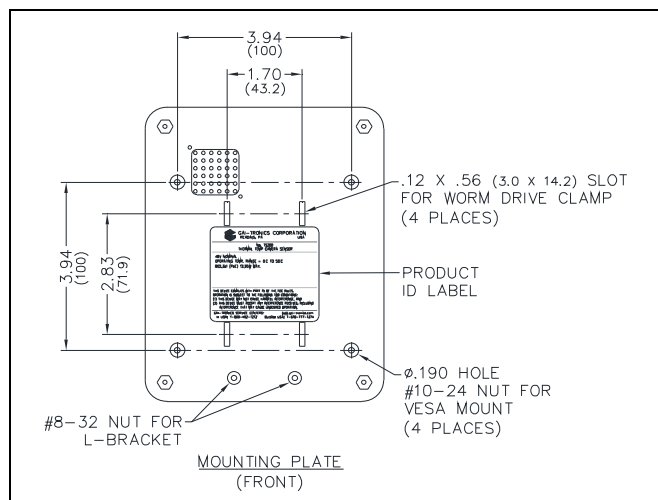
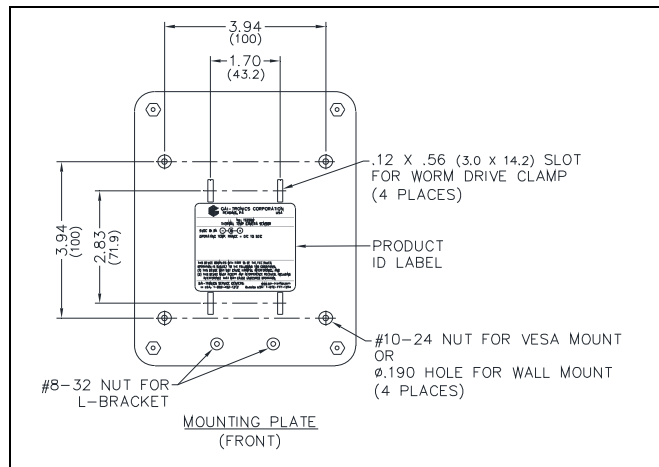

Figure 6. Mounting Plate Detail (Model TS200)
Figure 7. Mounting Plate Detail (Model TS200W)
1. Secure the mounting plate (TS200: see Figure 6, TS200W: see Figure 7) to a flat surface using (customer supplied) hardware.
1. Secure the TS200 (see Figure 6) or TS200W (see Figure 7) mounting plate, to a pole using (customer supplied) worm-drive clamps
Attach a VESA (video electronics standards association) mount to the mounting plate with the included #10-24 screws and washers (TS200: see Figure 6, TS200W: see Figure 7).
1. Secure the mounting plate (TS200: see Figure 6, TS200W: see Figure 7) to the TS200/TS200W using the four included #6-32 screws.